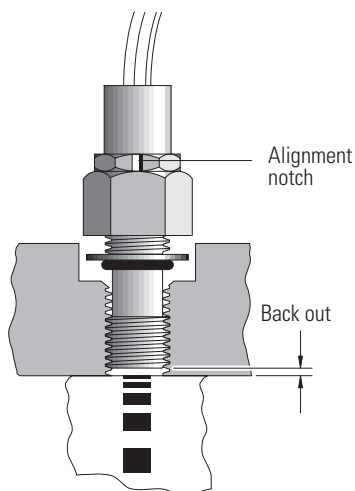

Figure 21
5. Turn the speed sensor body out one quarter turn (CCW) plus the additional amount (CCW) needed to make the alignment notches perpendicular to the motor shaft centerline ($90^{\circ} \pm 5$ degrees from the motor shaft centerline — Figure 21 and 22).